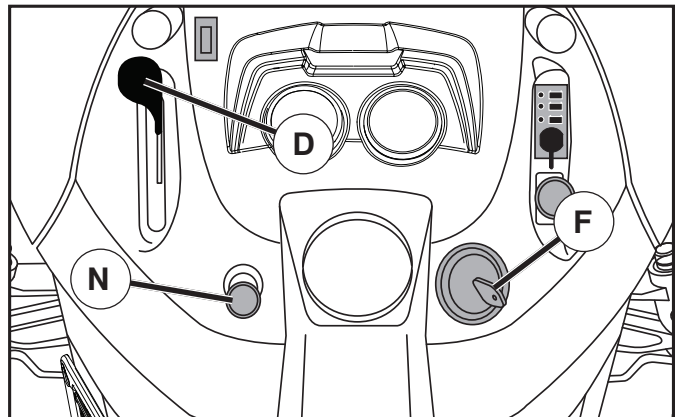

Fig. 19
- Move throttle control (D) to slow position.
- Turn ignition key (F) to "STOP" position and remove key. Always remove key when leaving tractor to prevent unauthorized use.
### TO USE THROTTLE CONTROL (D) (See Fig. 19)
### TO USE CHOKE CONTROL (N) (See Fig. 19)